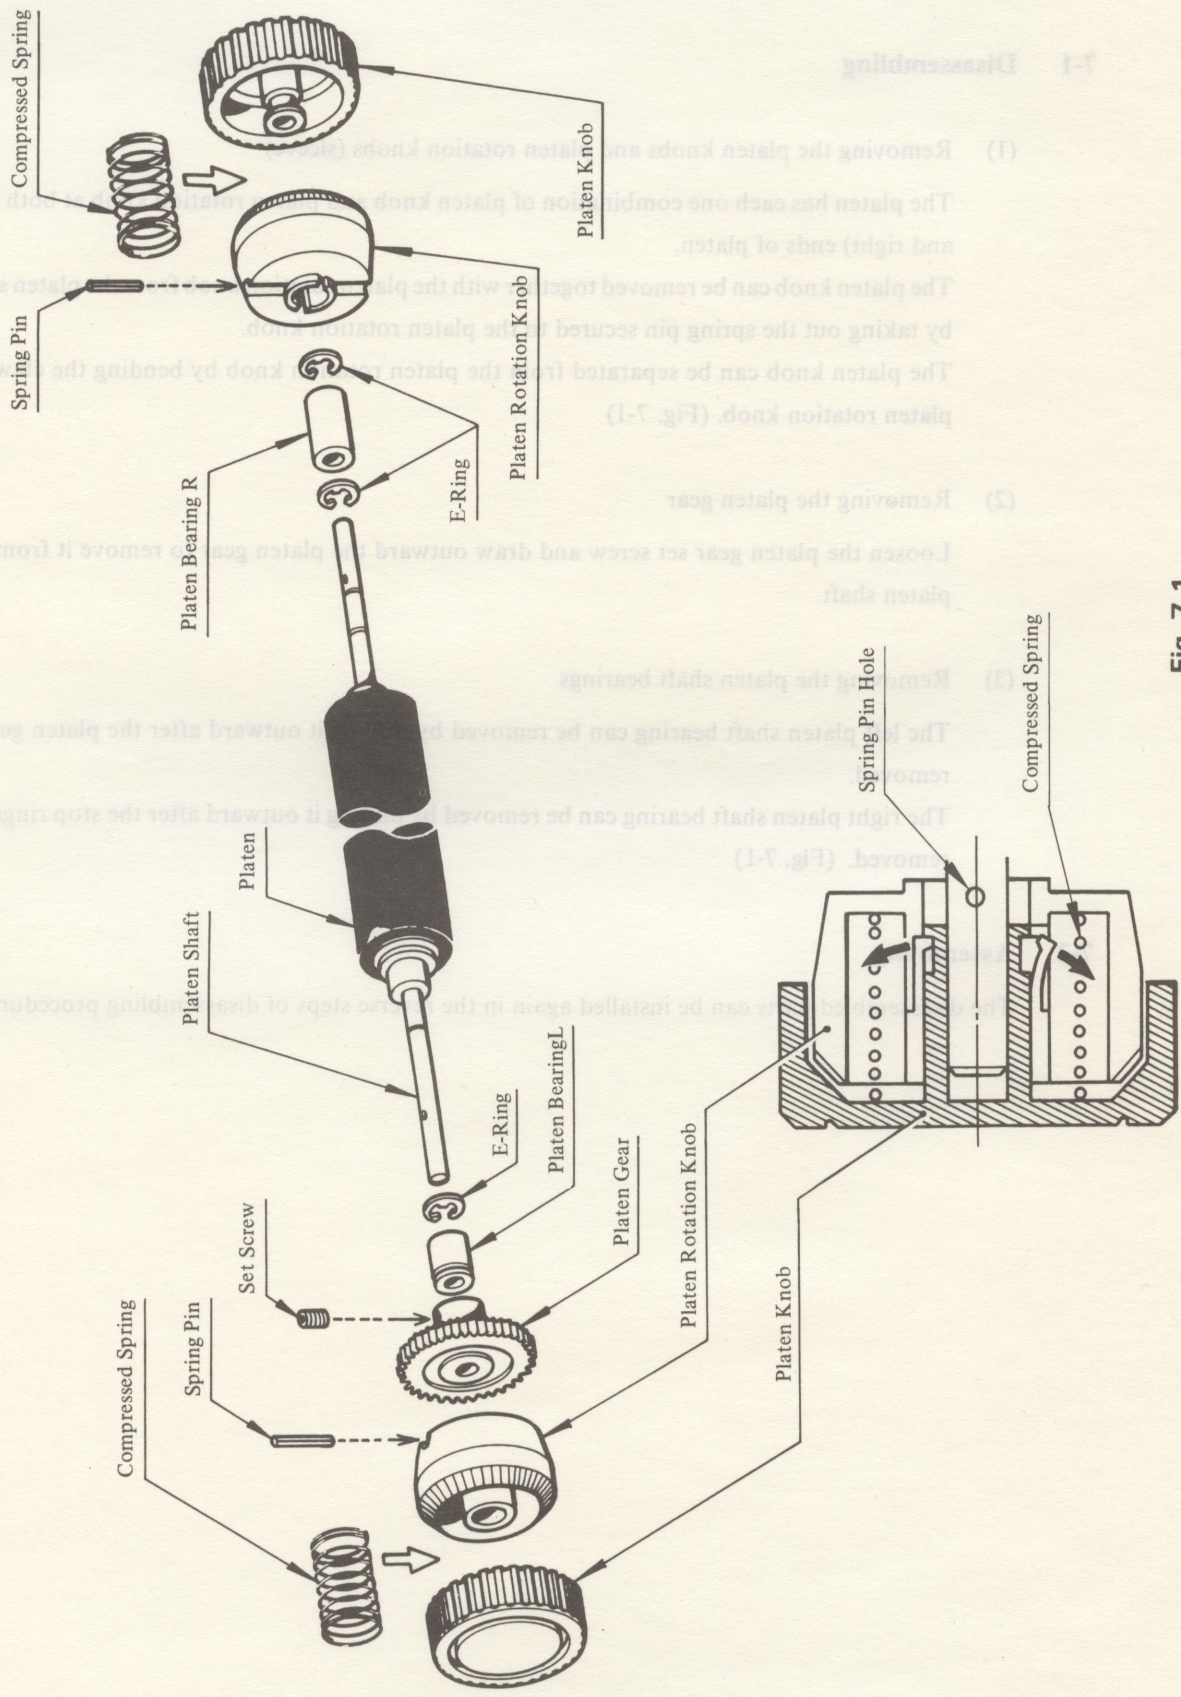

Fig. 7-1
- (3) Drive wire tension
- (b) Locate the horizontally extended wire to the center of wound wire width and hang the weight of 200 g (special tool for tension adjustment) from the wire at the center of the wire span. (Fig. 7-1)
The platen knob can be separated from the platen rotation knob by bending the claws of platen rotation knob. (Fig. 7-1)
The right platen shaft bearing can be removed by pulling it outward after the stop rings are removed. (Fig. 7-1)